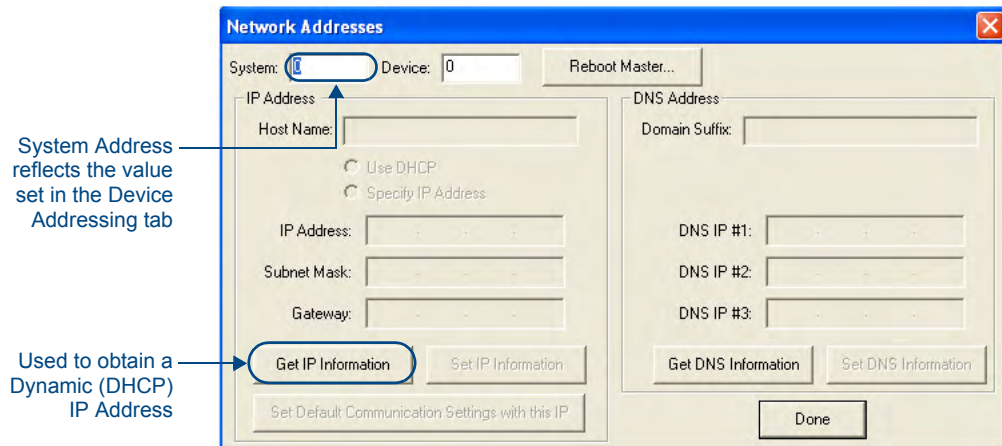

FIG. 2 NetLinX Studio: Network Addresses dialog (for a DHCP IP Address)
1. In NetLinX Studio, select **Diagnostics > Network Addresses** from the Main menu to access the Network Addresses dialog (FIG. 2).